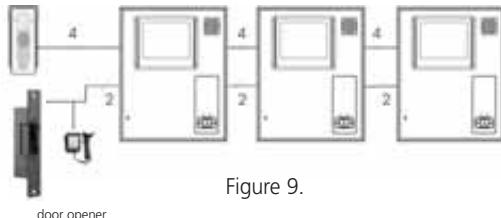

Figure 9
- To be able to see who is at the door from several places (max. 4). Upon that, you now have an intercom system (figure 9). Available separately: